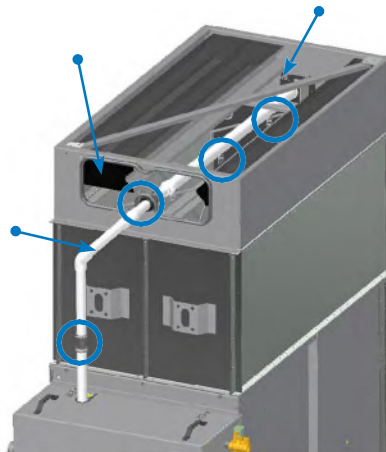

Figure 7. Spray Pipe Install, Upper Pipe and Eliminator Install
3. Align sections using drift pins and secure the two sections together using the factory-supplied fasteners. Note the fastener type varies on the location and the unit's material of construction. See **Figure 7** and **Table 3** for more details. Repeat as necessary for all modules of the unit.
3. **For Figures 1c and 1d:** If it is still in place, remove the access panel from the spray section, saving the hardware. Install the water distribution system pipe between the two rubber couplings (see **Figure 7**). Slide the pipe into the bracket and ensure the nozzles are pointing downward. Place and install two rubber couplings at the top and bottom of the spray pipe. If they were already removed, replace the eliminators into the spray section, noting the original location and orientation. Replace the access panel (see **Figure 4**). Repeat as necessary for all modules of the unit.